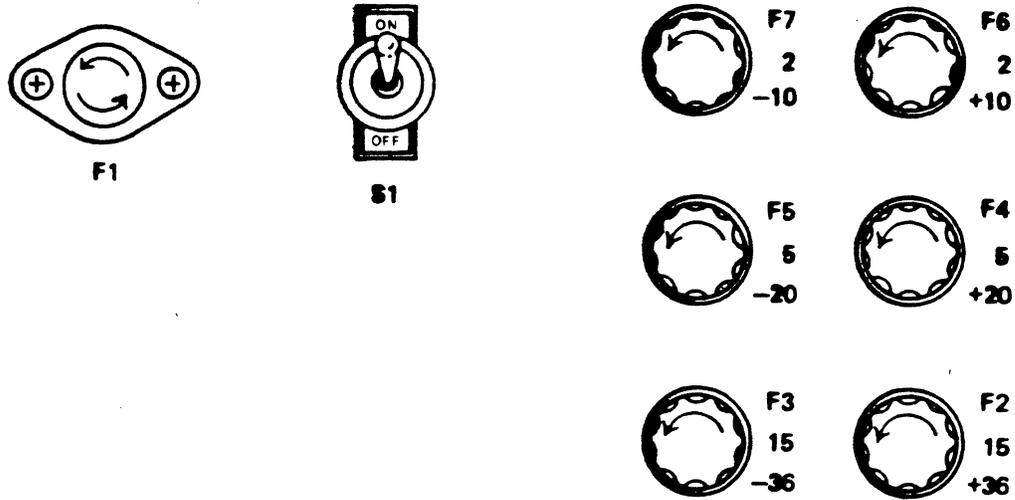

Figure 2-8. Tape Unit Fuses
- d. Check the six fuses located on the power supply at the inside back of the tape unit. These fuses are identified in figure 2-8.